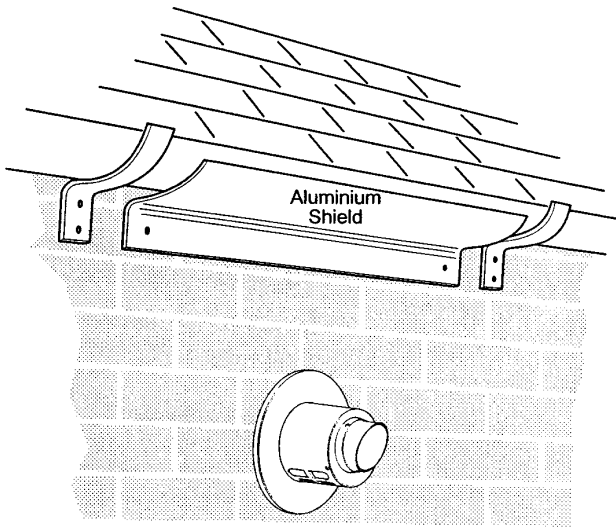

Fig. 16
2. If the terminal is fitted within 1 metre (39 in) of a plastic gutter, within 500mm (19½in) of a painted eave or a painted gutter, an aluminium shield of at least 1 metre (39 in) long should be fitted to the underside of the gutter or painted surface. An air space of 5mm (³/₁₆ in) should be left between shield and gutter (Fig. 16).